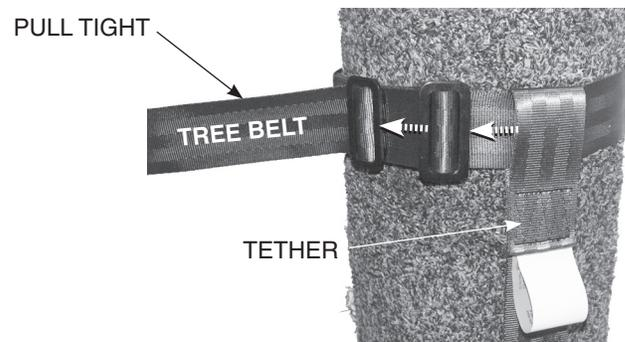

FIGURE 12
5. When you reach the height of your stand platform, **DO NOT UNHOOK YOUR CLIMBING BELT**, you must attach the harness tether to the tree, above the treestand, using the provided tree belt. Wrap the tree belt through the loop end of the tether and around tree. Take the tail end of tree belt and feed it through (2) adjustment slides on tree belt. **SEE FIGURE 12**. Pull the tail of tree belt tight.
NOTE: Be sure the (2) adjustment slides are facing away from tree, preventing any obstruction. Do not position tether on or between the (2) tree belt adjustment slides. SEE FIGURE 12.